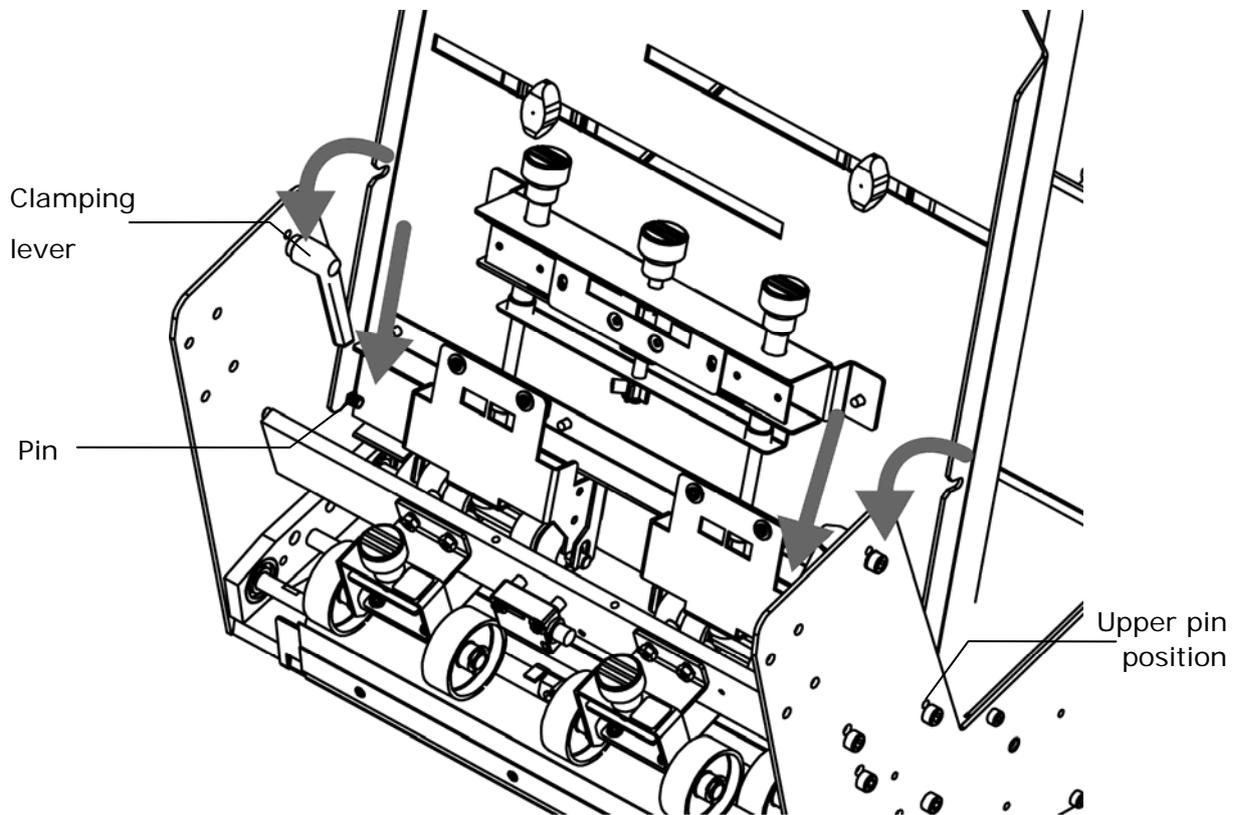

Figure 4: Assembly of the stacking plate
- Place the stacking plate with its two recesses above the pins inside the side panels (see arrow pointing downwards in Figure 4).
- Now tip the stacking plate toward the loosened clamping levers and engage the plate with them (see curved arrow in Figure 4). Tighten the clamping levers. You may have to pull and release the levers several times in axial direction, while fastening them step by step.
For materials thicker than approx. 6 mm / 0.25", the two pins of the side plane and the clamping levers may be mounted in an upper position (see Figure 4). Just unscrew them and mount them into the secondary holes in the side plane. You may need a hexagon socket screwdriver for that.